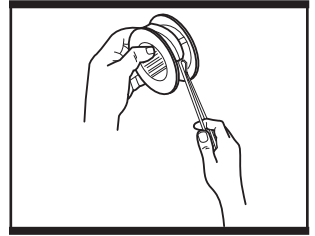

Fig. 18c
7. Cut a new 6 m long trimming line with a diameter of 2mm. Form a loop at the middle of the line and insert this loop into the hook on the spool. (See Fig. 18c)